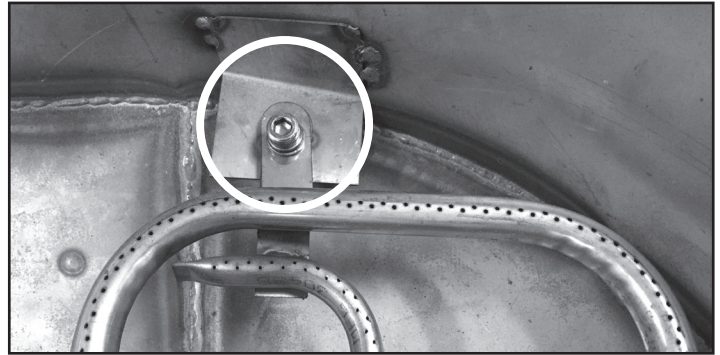

Figure 1
2. Remove the screw from the left or right burner (Figure 1).